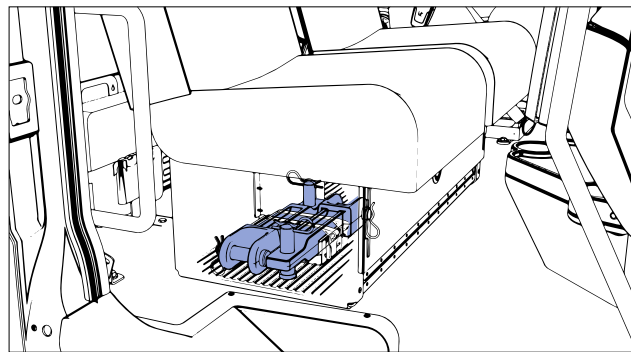

Figure 28 - Cabin's storage compartment under the passenger seat
2. Open the cabin storage compartment located underneath the passenger's seats and locate the tow hooks, the dowels and the cotter pins (**Figure 28**).